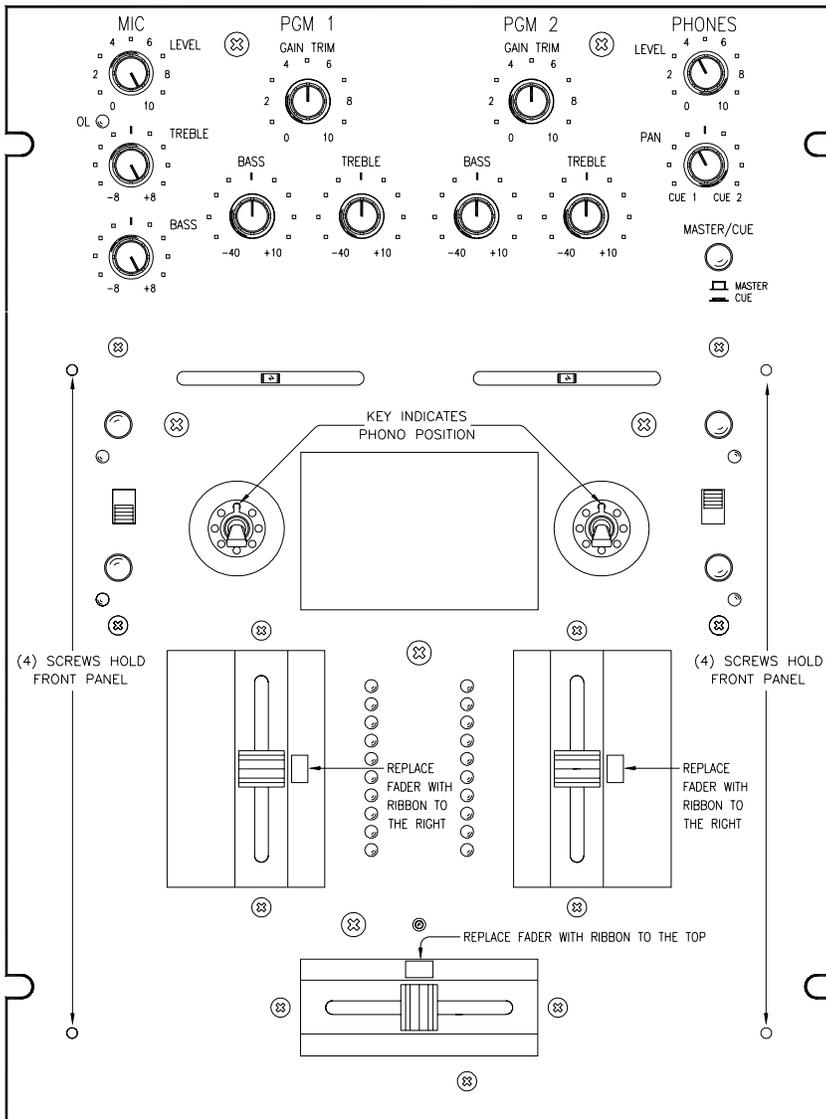

Figure 4. Phono/Line switch rotation or replacement
- ③ **BALANCE** controls are used for **LEFT/RIGHT** balance of **PGM 1** and **PGM 2** or for **LEFT/RIGHT** Pan effect. Push the control to the left and sound moves to the left channel. Push the control to the right and sound moves to the right channel.
- ④ **PHONO / LINE** source select switches are provided for **PGM 1** and **PGM 2**. These are “clickless” switches suitable for “transform scratch” applications. The switches are field replaceable and may be rotated in 45° increments. *See Figure 4 on page Manual-6 for rotation and replacement instructions.*
- ⑤ **HAMSTER** switches are provided for **PGM 1** and **PGM 2 Program Faders**. These switches reverse the operation of the adjacent **Program Fader**. When engaged, signal is *off* with the **Program Fader up**, and *maximum* with the **Program Fader down**.
- ⑥ **Program Fader** controls for **PGM 1** and **PGM 2** are ultra low noise, long-life, monorail devices. An *ActiveFader™* design completely isolates the control element from the audio, providing the highest reliability and performance. *See page Manual-6 for cleaning and replacement instructions.*
⑦ **PGM 1** and **PGM 2 Meters** provide true L+R Dual Mono indication of **Post-Program Fader** signal levels. Ten segment resolution is provided with a one second peak hold indication. With the Program Fader set to maximum, the input **GAIN TRIM** should be set to indicate an average level of about +4.
⑧ **Crossfader** control is implemented using Ranes' proprietary *ActiveFader™* design. As with the **Program Faders**, all audio is isolated from the control element, greatly extending the life and performance of the control. *See page Manual-6 for cleaning and replacement instructions*